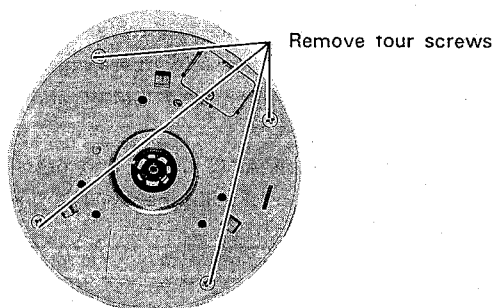

Fig. 2-3
- Remove four screws on the cover as shown below. (Fig. 2-3)